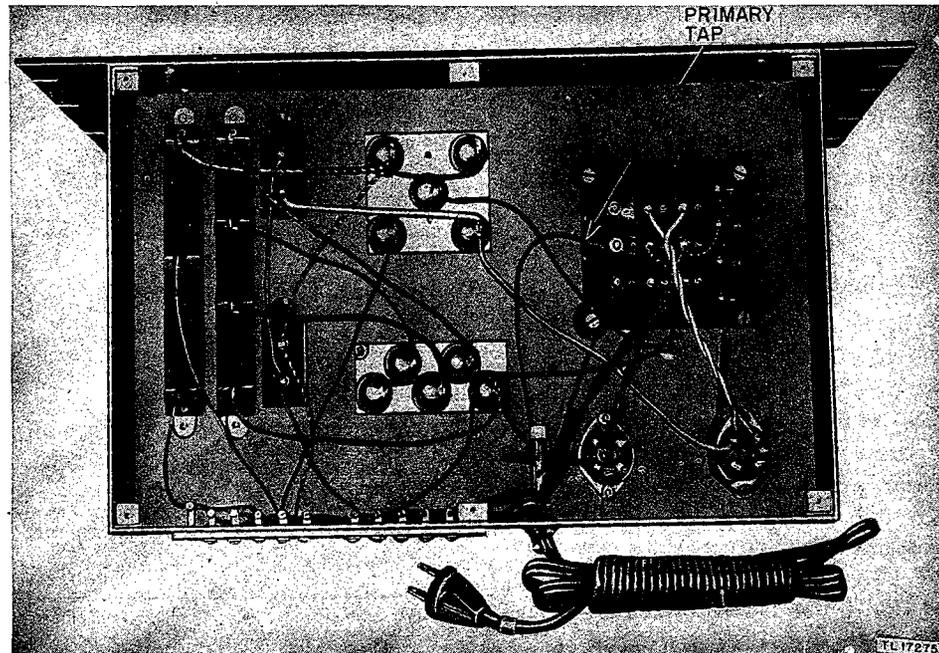

Figure 12. Bottom view of power supply unit, showing primary tap connection.
*e. A-C INPUT.* Before plugging the power cord into the a-c power line, remove the bottom plate from the power supply unit to see that the primary tap is properly connected for the particular a-c voltage available. This primary tap connects the fuse holder to one of the screw terminals on the power transformer, and is marked PRIMARY TAP in figure 12. Connect the primary tap to the screw terminal most closely agreeing with the available a-c line voltage and replace the bottom cover plate.
(1) Power Supply Unit RA-74(\*) has eight